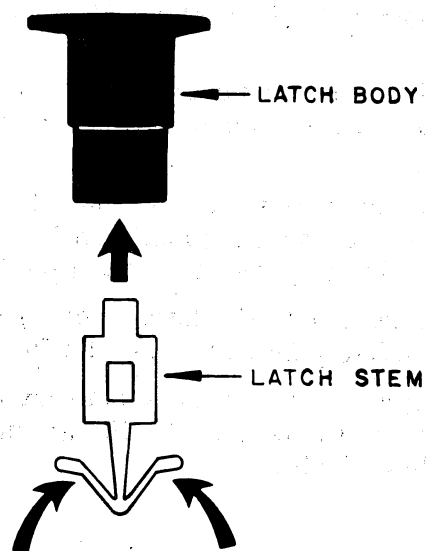

FIG. 2
- () 5 Insert the latch stem into the latch body as shown in Fig. 2 making certain the latch stem is inserted completely by squeezing the flexible wings together.